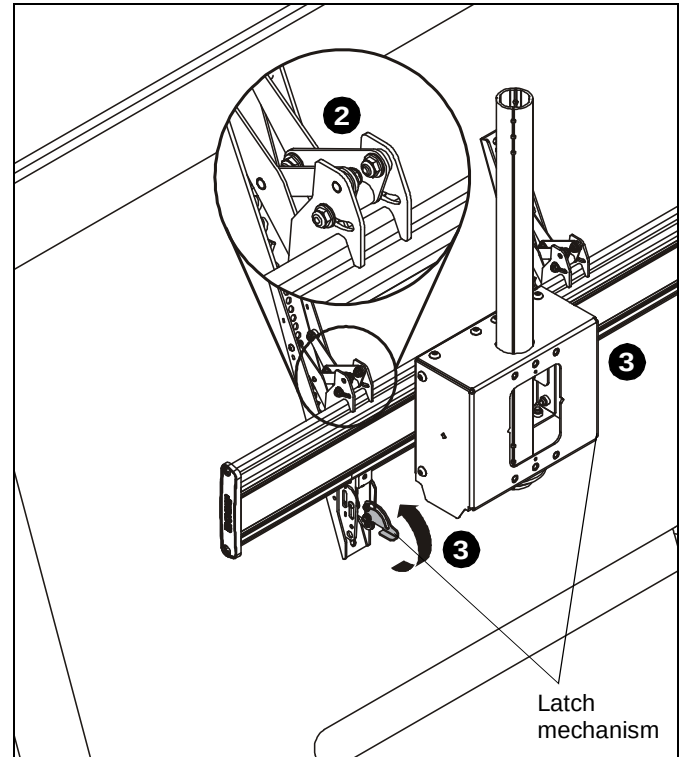

Figure 9
2. While supporting both sides of display, lower display onto ceiling mount, hooking top of interface brackets onto front of ceiling mount. (See Figure 9)
3. Raise the latch mechanism on both interface brackets to lock bracket in place. (See Figure 9)